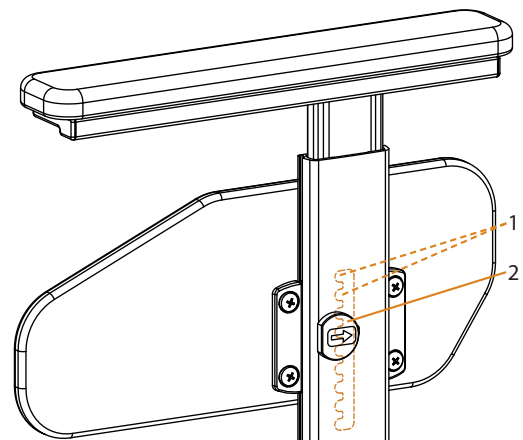

Figure 30. Armrest height adjustment
The mechanism that controls the height setting of the armrest consists of a spring-loaded pin that locks in a number of slots (1 in Figure 30) in the inner profile. When the button (2) is pushed to the side the pin is released and the inner profile can slide up and down. When the button is released the pin snaps into a locked position. The button is attached by a screw, with the screw head hidden under the button label. The button can be replaced if damaged.